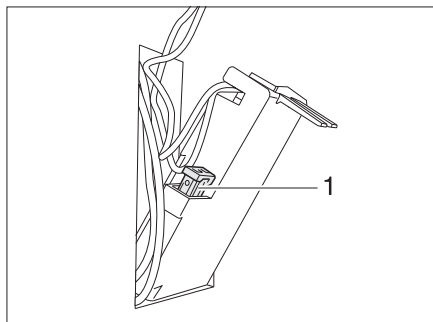

Fig. 293 Fuse for the Thetford toilet
- Replace the fuse (Fig. 293,1).